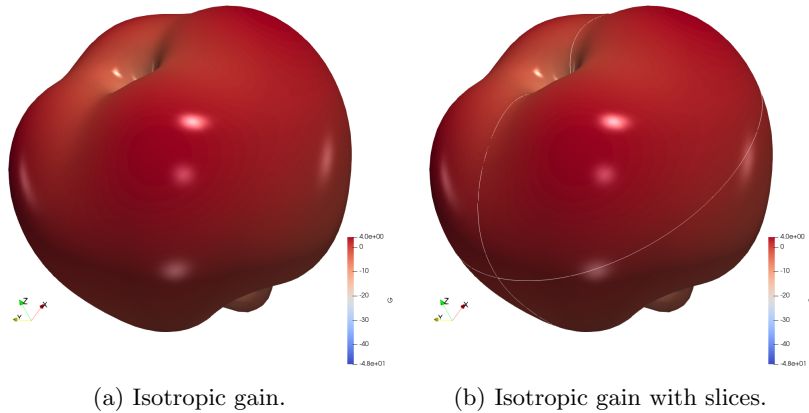

Figure 23: Isotropic gain at 4.7 GHz.
- View the computed far fields with ParaView using the files saved in the directory `ParaView_monopole_antenna_FarField`. Open the file `G_4.7e+09.SP1`, change Solid Color to G, set Normal Array to normals, and set Specular to 1. The 3D far-field gain is shown in Fig. 23(a), where the influence of the finite ground plane can be seen on the field.
- Open the files `slice_G_4.7e+09_xz_0_0.SP1` and `slice_G_4.7e+09_xz_0_0.SP1` to show slices cut through the 3D pattern as shown in Fig. 23(b). View all together to ensure that the slices are as expected, and de-select various plots to explore the slices in isolation.